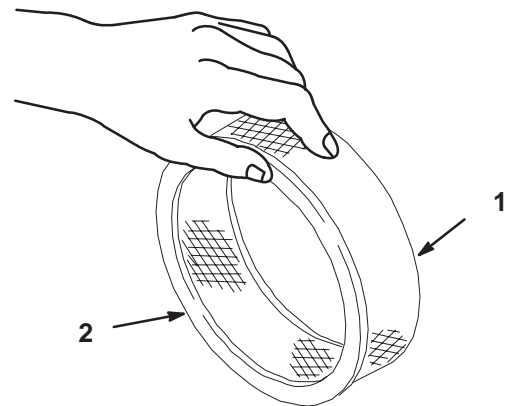

Figure 12
1. Lightly tap the element on a flat surface to remove dust and dirt (Fig. 12).